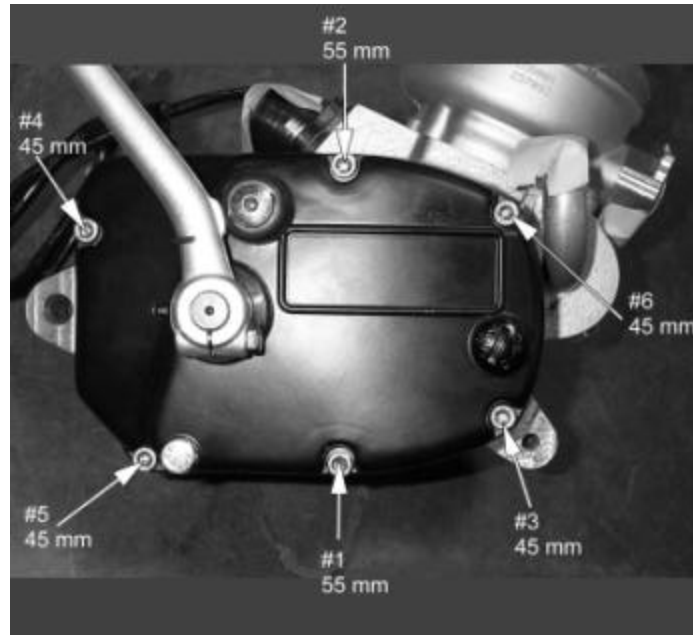

Figure 17
8. Install the clutch cover taking care to put the two longer bolts in their proper locations and tightening in the order specified in figure 17. (5mm hex key, 5.8 ft-lb, 7.8 Nm).